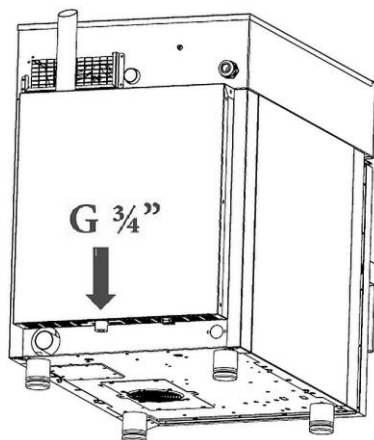

Abb. 4
- Fix the included water supply tube to the appliance's connection element (3/4"). The connection is located under the appliance, to the right (Fig. 4).